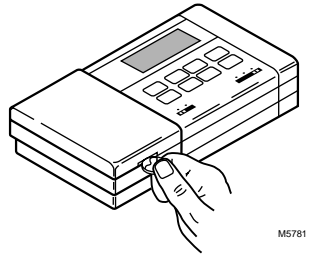

Fig. 12. Removing battery door.
3. Use a coin to remove the battery door. See Fig. 12.